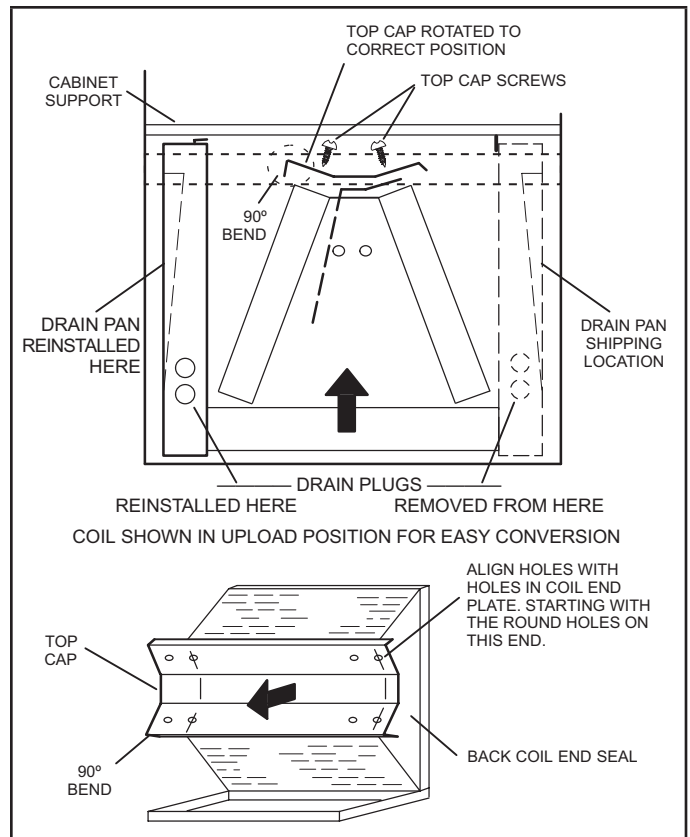

FIGURE 11. Field Modification for Left-Hand Discharge
- 7 - Rotate top cap 180° front-to-back and align with unused screw holes. Holes must align with front and back coil end plates. The top cap has a 45° bend on one side and a 90° bend on the other. **The 90° bend must be on the same side as the horizontal drain pan as illustrated in figure 11.**
- 9 - Install the horizontal shield (-060 model) on the front edge of the horizontal drain pan as illustrated in figure 11.